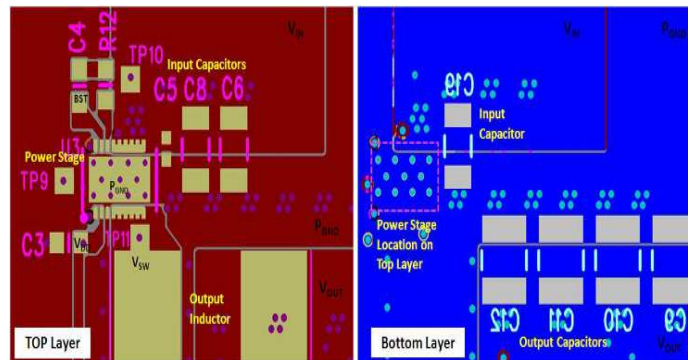

Figure 16. Recommended PCB Layout (Top Down View)
- The placement of the input capacitors relative to  $V_{IN}$  and  $P_{GND}$  pins of CSD97395Q4M device should have the highest priority during the component placement routine. It is critical to minimize these node lengths. As such, ceramic input capacitors need to be placed as close as possible to the  $V_{IN}$  and  $P_{GND}$  pins (see Figure 16). The example in Figure 16 uses 1 × 1 nF 0402 25 V and 3 × 10  $\mu$ F 1206 25 V ceramic capacitors (TDK Part # C3216X5R1C106KT or equivalent). Notice there are ceramic capacitors on both sides of the board with an appropriate amount of vias interconnecting both layers. In terms of priority of placement next to the Power Stage C5, C8 and C6, C19 should follow in order.
- Use the smallest drill size allowed in your design. The example in Figure 16 uses vias with a 10 mil drill hole and a 16 mil capture pad.